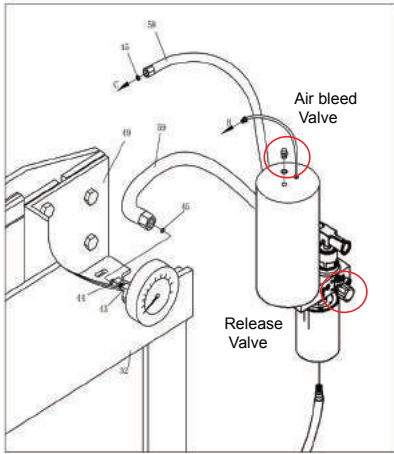
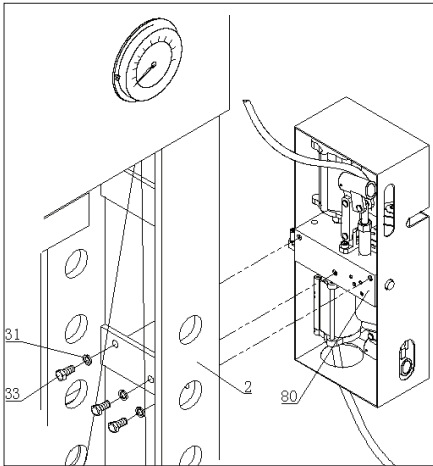

Fig.07
Fig.09
- Move the pump assy, Fig.07 ( WP75P ), Fig.09 ( WP100P ),to the outside of the post, use bolt and washer which dismantled just now to twist tight on the right connecting plate .
- Open the release valve, by turning it in an anti-clockwise direction, and open air bleed vavle, Fig.07.
- Close the release valves, Fig.07, by turning it clockwise until it is firmly closed.